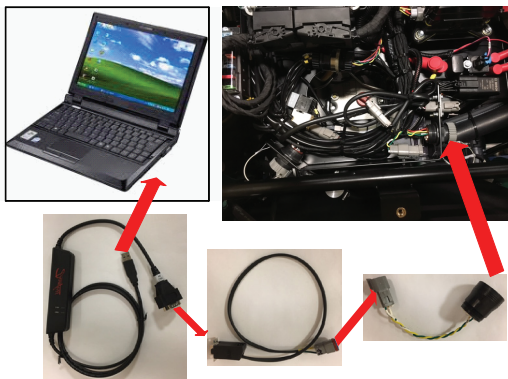

Figure 16. Connecting the Laptop
3. Connect the USB connector of the CAN Gateway cable to the USB port of the laptop (Figure 16).